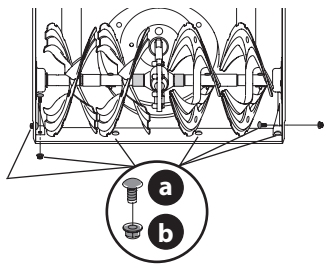

Figure 81
3. Remove carriage bolts (a) and hex nuts (b) which attach it to auger housing (Figure 81).
4. Reassemble new shave plate, making sure heads of carriage bolts are to the inside of housing. Tighten securely (Figure 81).